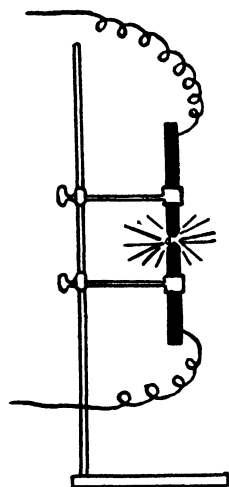

FIG. 84.—The electric arc.
6.—Secure two electric light carbons and fasten to one end of each a heavy copper wire. Mount these carbons in a vertical position on a ring stand by means of clamps as shown in Fig. 84 and insulate the carbons from the clamps with asbestos paper. Now connect the carbons in series with the rheostat and the house current, having the resistance all in at the start. Bring the carbons together lightly and gradually cut out the resistance until the ends begin to glow. Draw the carbons apart slightly and cut out more resistance. Draw